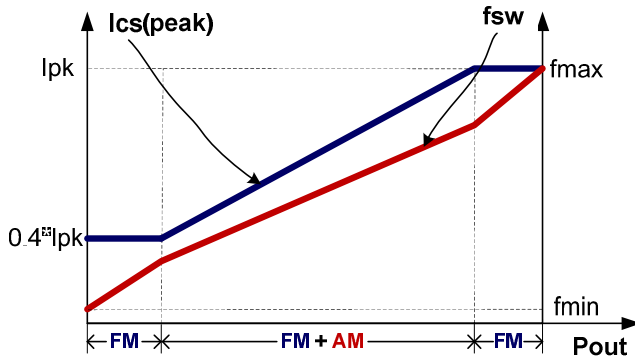

Fig.4
To meet the tight requirement of averaged system efficiency and no-load power consumption, a hybrid of frequency modulation (FM) and amplitude modulation (AM) is adopted in DP220X which is shown in the Fig 4.